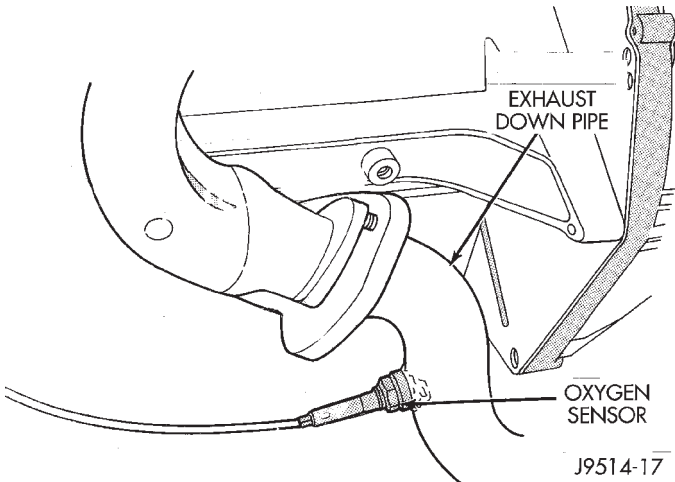
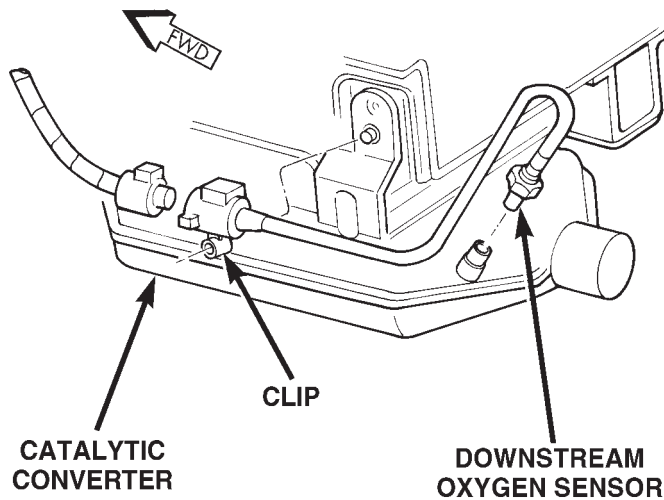

Fig. 41 Upstream Oxygen Sensor—4.0L Engine
Fig. 42 Downstream Oxygen Sensor—4.0L Engine
(21) Verify that both of the oxygen sensor wire connectors are firmly connected to the sensors. Inspect sensors and connectors for damage (Fig. 41) or (Fig. 42).
(22) Inspect for pinched or leaking fuel tubes. Inspect for pinched, cracked or leaking fuel hoses.